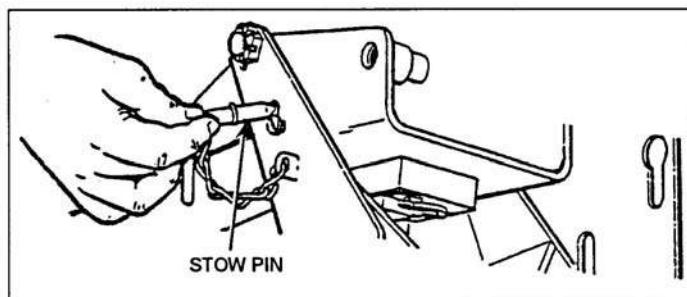

Figure 071-030-0011-4. Disengagement of stow pin
- e. Remove the quick release pin from the T&E mechanism. Align the holes in the T&E mechanism with the rear holes of the gun mount. Insert the quick-release pin from the right side and rotate the pin downward to the locked position (figures 071-030-0011-5 and 071-030-0011-6).